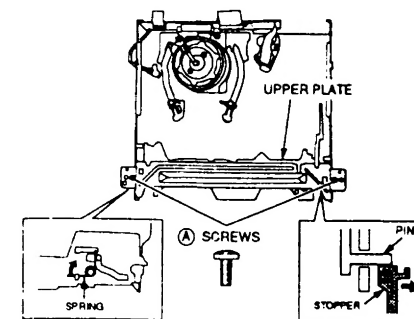

Fig 4.
- 1: Remove the two (A) screws on the UPPER PLATE, as shown in Fig 4, then remove the UPPER PLATE.
- 2: Unhook the spring and remove it as shown in Fig 4.
- 3: While pressing the right STOPPER in the direction of the arrow (refer to Fig 4.), gently remove the right side pin of the CASSETTE LOAD BLOCK from the rail by pulling it in the forward direction. Next, remove the left side pin in the same manner, then remove the CASSETTE LOAD BLOCK. To avoid damaging the pins of the CASSETTE LOAD BLK and the rail of the MECHA. FRAME, do not use excessive force when removing the CASSETTE LOAD BLK.